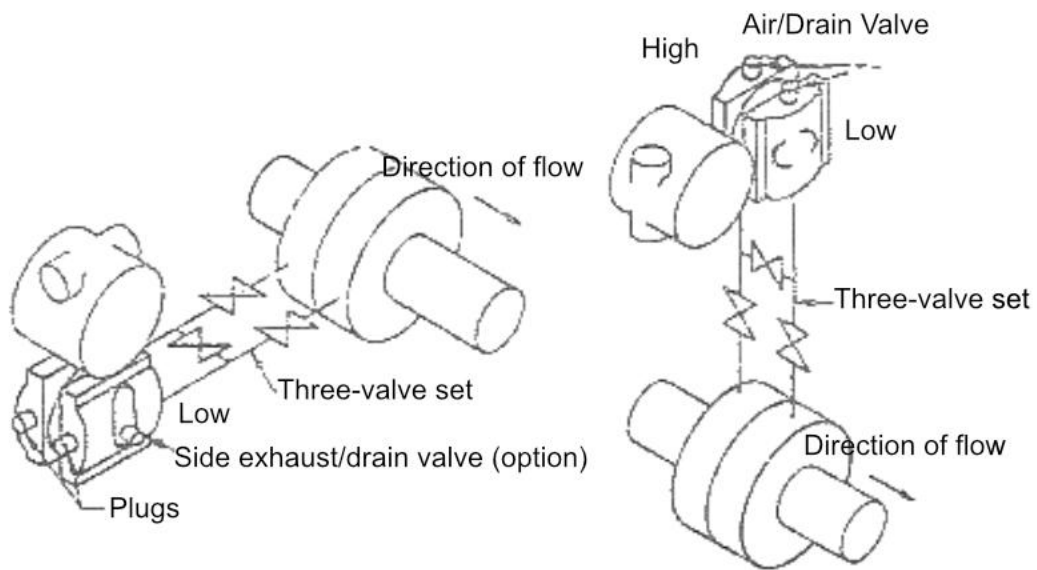

Figure 2.6 Gas medium connection diagram
**When measuring the pressure of gas medium,** the pressure port should be installed on the top or side of the process pipeline, and the intelligent transmitter should be installed above the side pressure port so that the liquid can be discharged into the process channel, as shown in Figure 2.6.